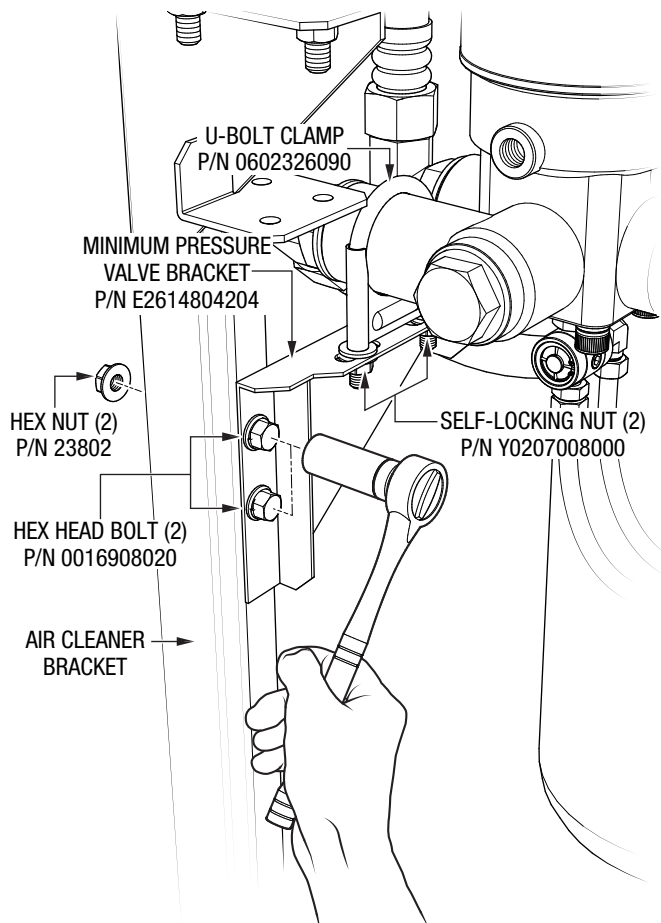

Figure 17. Secure Minimum Pressure Valve Bracket
- Secure the minimum pressure valve bracket (P/N E2614804204) to the air cleaner bracket with the two hex head bolts (P/N 0016908020) and two hex nuts (P/N 23802). See Figure 17.
- Tighten the two self-locking nuts (P/N Y0207008000) securing the minimum pressure valve bracket (P/N E2614804204) to the U-bolt clamp (P/N 0602326090). Make sure the clamp remains level and straight. See Figure 17.